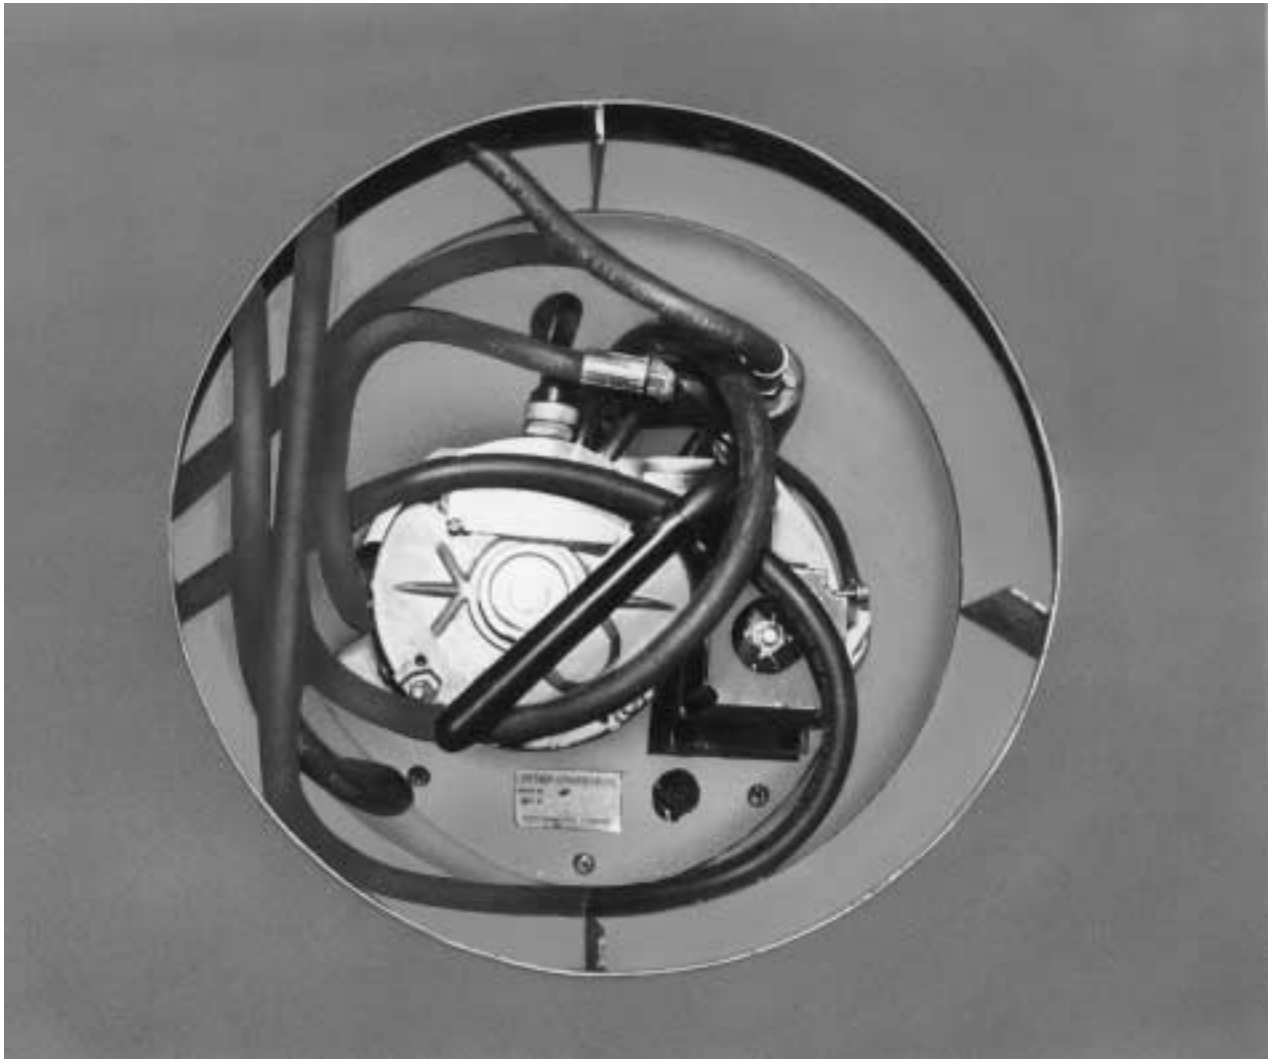

Figure 22
4. Position hydraulic lines as shown in Figure 22.